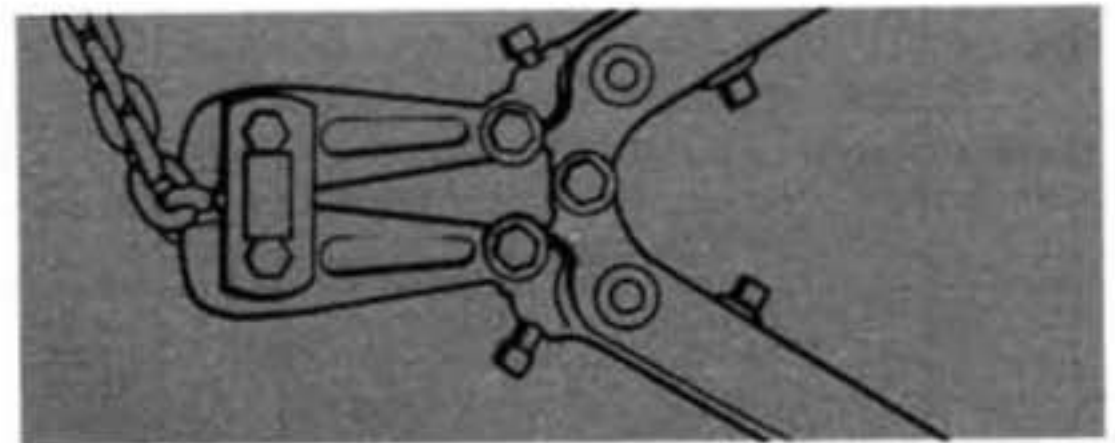

Figure 22. Cutting Chain with a Bolt Cutter
- Use a bolt cutter (Figure 22) similar to the H. K. Porter No. 0590MTC with special cutter jaws for cutting hardened chain (1" long cutting edge).